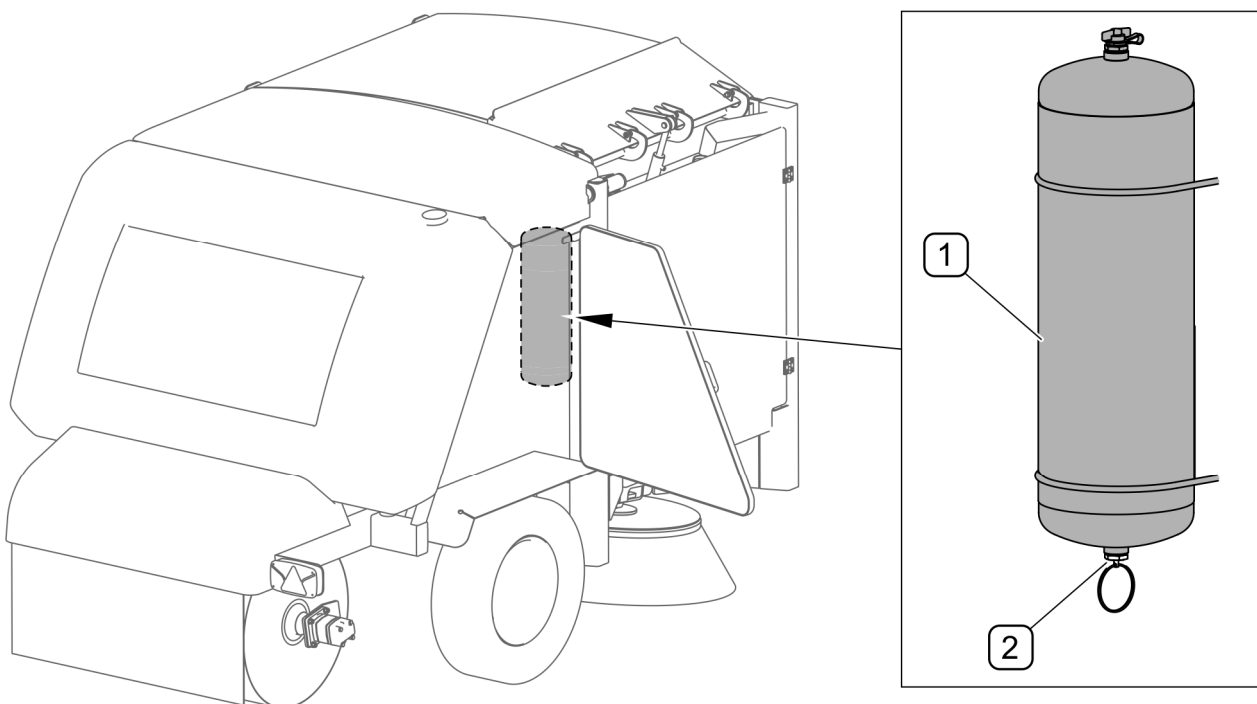

FIG. 5.25 **Draining water from air tank**
Condensation collecting (FIG. 5.25) as water should be removed from air tank periodically. In order to do this open out drain valve (2) placed in lower part of tank (1). The compressed air in the tank causes the removal of water to the exterior. After release valve stem (2) should automatically close and stop airflow from tank. In the event, that the valve stem resists returning to its setting, then the whole drain valve must be unscrewed and cleaned, or replaced (if it is damaged).
Annually before the winter period unscrew and clean drain valve of air tank (FIG. 5.25),